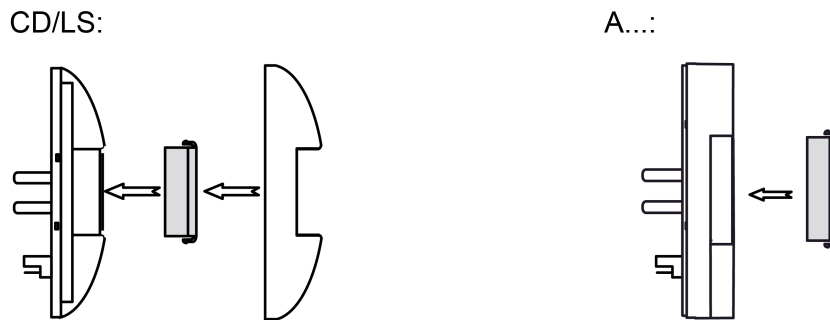

Figure 13: Mounting of panel for CD/LS and A programs to limit the detection range
- Mount the cover for the left or right side of the device (figure 13).
- Directly mount the cover from the front on the left or right side of the device (figure 13).